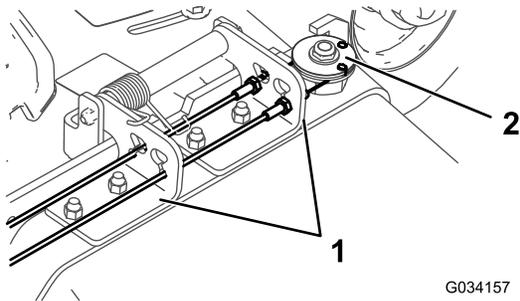

Figure 7
- Thread the cables through the rear discharge-chute bracket (Figure 7).